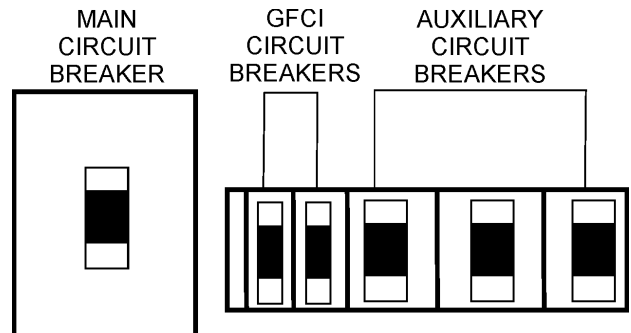

Figure 57. Main, AUX. and GFCI Circuit Breakers (ON)
16. Turn the *main*, *GFCI*, and *aux.* circuit breakers to the "ON" position (Figure 57).